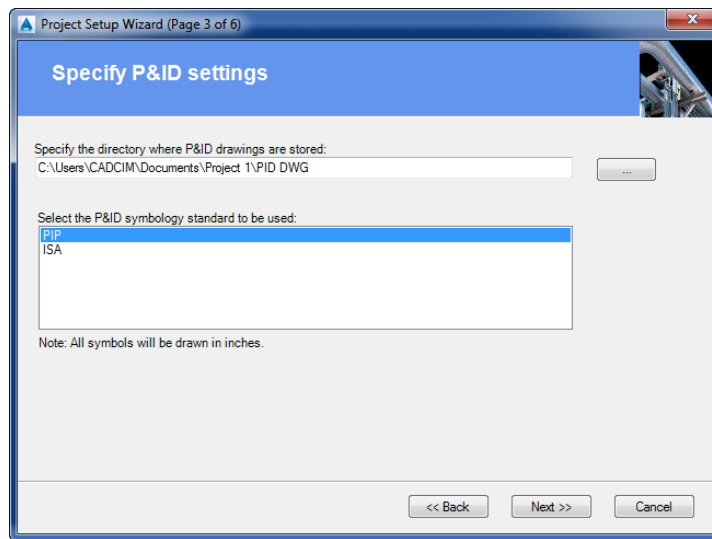

Figure 2-4 The Specify P&ID settings page
4. Choose the **Imperial** radio button and choose the **Next** button; the **Specify P&ID settings** page will be displayed, as shown in Figure 2-4.